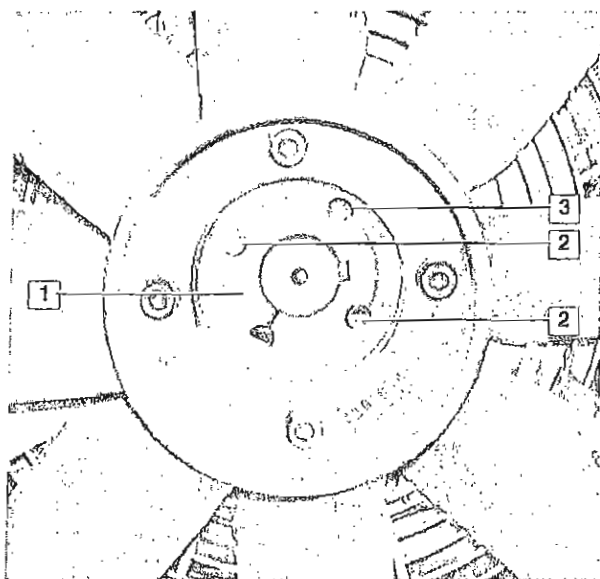

Fig. 17 Taper lock bushing
The flywheel is fastened to the crankshaft by means of a Taper-lock bushing, see Fig. 17. To remove the flywheel, loosen the bushing (1) by removing two allen screws (2) and screw one of them into thread (3) until the bushing is free.